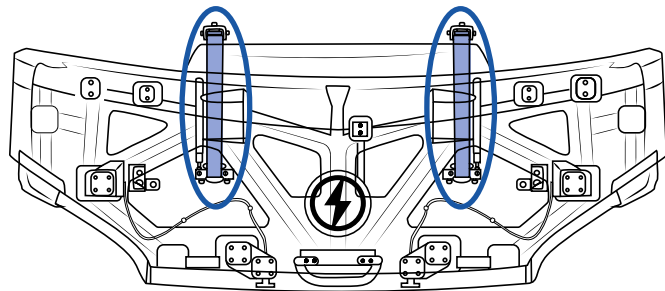

Figure 15 - Location of hood safety mechanism
5. Push on both arms of the safety mechanism (**Figure 15**) to lock the hood in the open position.